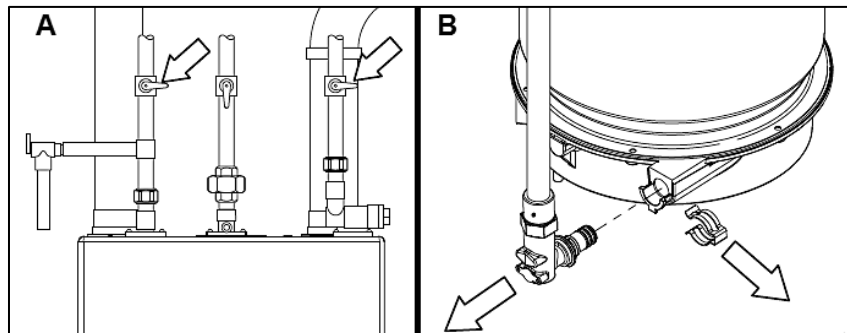

Figure 35 – Draining the Water Heater
2. Close the water supply inlet and outlet valves. The valve is closed typically when the handle is perpendicular to the pipe, as shown in Figure 35-A.
4. Remove the clip holding the inlet line to the heat exchanger. Pull the inlet fitting from the heat exchanger. Allow water to drain from the heat exchanger. See Figure 35-B.